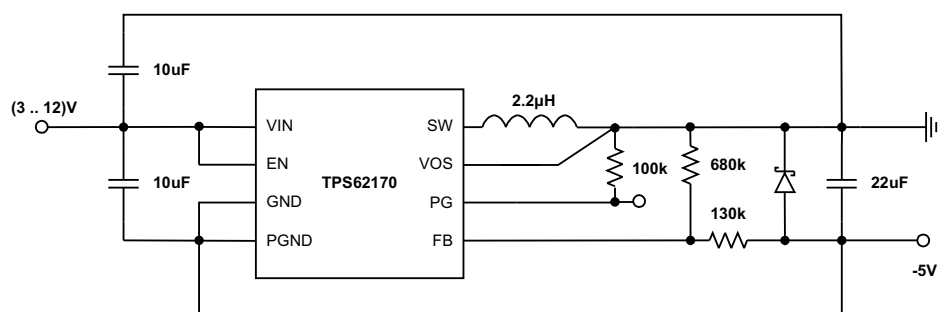

Figure 41. -5V Inverting Power Supply
The TPS62170 can be used as inverting power supply by rearranging external circuitry as shown in Figure 41. As the former GND node now represents a voltage level below system ground, the voltage difference between V_{IN} and V_{OUT} has to be limited for operation to the maximum supply voltage of 17V (see Equation 13).
- Added diode to Figure 41 24